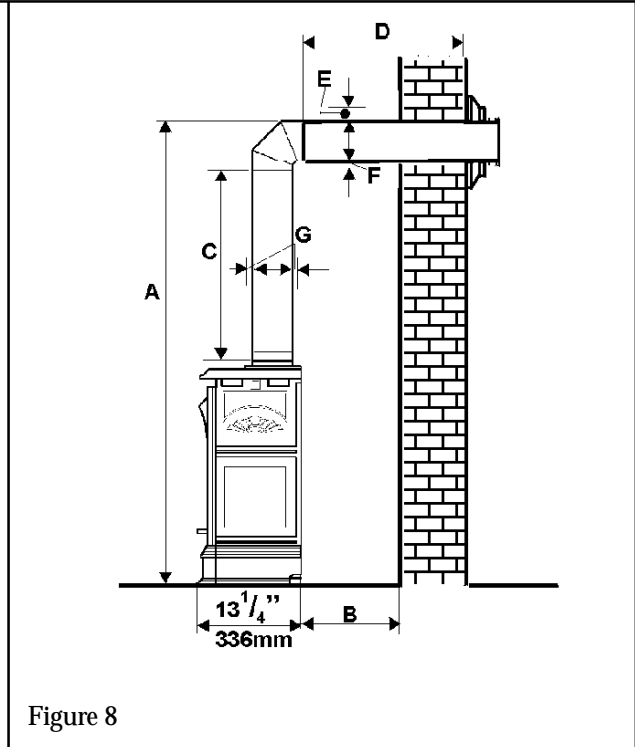

Figure 8
**4.3.5. Top flue pipe connection, vertical rise with horizontal rear termination (Fig.8)**
The location requirements are (See figure 8):-
**4.3.6. Top flue pipe connection, vertical rise with horizontal side termination (Figs.8 &9)**
**4.3.7. Top flue pipe connection, corner location, vertical rise, straight horizontal termination (Figs 8 & 10)**